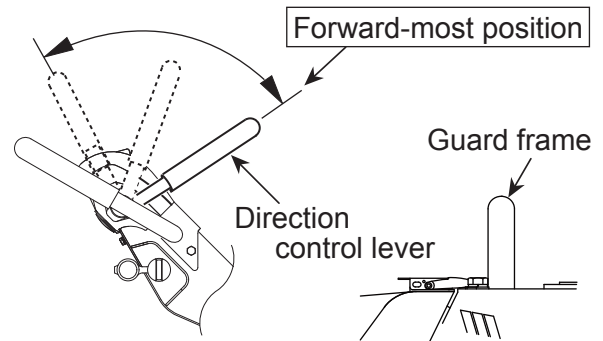

Figure 30. Direction Control Lever (Forward Position)
7. With the direction control lever at the forward-most position, secure the guard frame with a rope to immobilize (Figure 30).